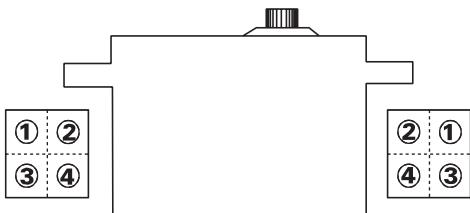

Figure C-3A
- 1. Use the tables in Figure C-3A and C-3B (Shown above) to determine how the servo mounting posts (24) should be attached to the servo (*not included*).